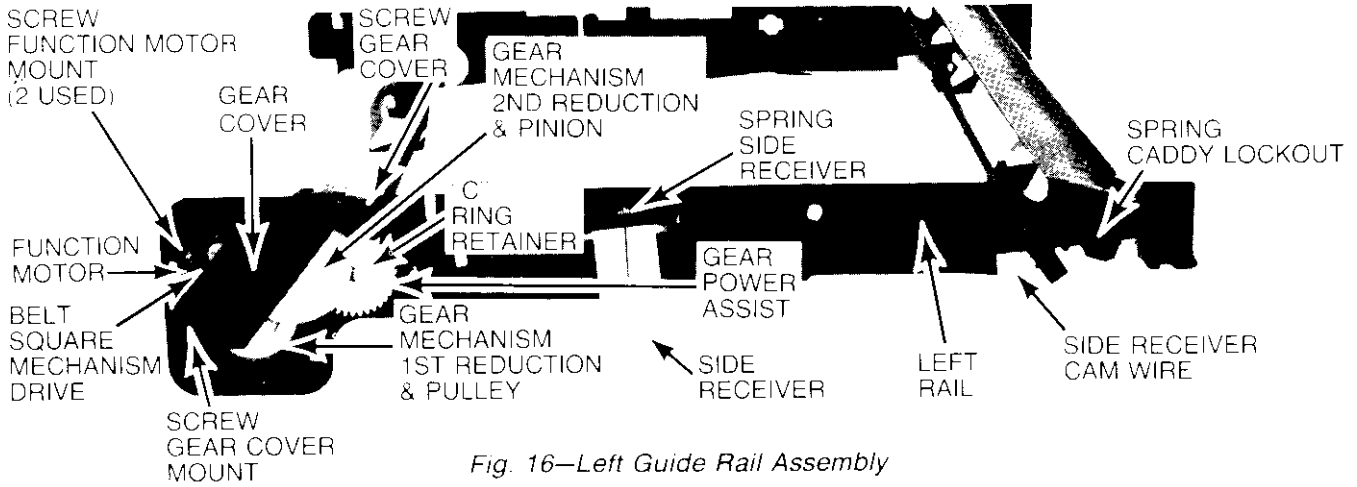
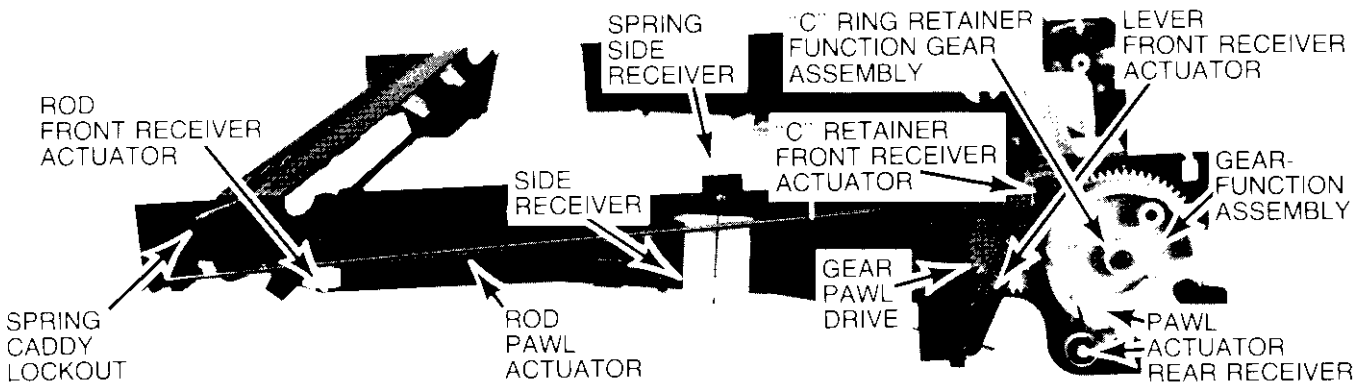

Fig. 16—Left Guide Rail Assembly
Fig. 17—Right Guide Rail Assembly
2. Remove two (2) pozi-drive (+ head) screws and remove gear cover Fig. 16.
3. Remove square drive belt Fig. 16.
4. Remove two (2) small pozi-drive (+ head) screws and remove function motor.
1. With guide rail assembly removed from player—remove retaining rings from function gear and receiver actuator (Fig. 17).
2. Release front receiver activating rod (Fig. 17) held captive by plastic tab on right rail assembly.
5. Remove receiver actuator rod (Fig. 17) from right rail assembly and side receiver wire cam (Fig. 16) from left rail.
6. Remove retaining ring holding pawl drive gear (Fig. 17) captive—remove pawl drive gear.
7. Remove retaining ring holding the power assist gear (Fig. 17) captive. Remove power assist gear.
8. Remove caddy lockout springs (Figs. 16 & 17) right and left sides. Remove caddy lockouts (Figs. 16 & 17).
1. With cabinet top, receiver spindle assembly and guide rail bracket removed—use thumb to rotate mechanism drive 2nd reduction gear (Fig. 16) in clockwise direction to place mechanism in "PLAY" mode while holding AC switch (S2) actuator (Item 47, Fig. 47) back out of the way. Immediately stop rotating mechanism 2nd reduction gear when Disc Transfer Rod Coupler (Item 38, Fig. 47) activates "PLAY" Switch S7 (forwardmost switch mounted on plastic AC IN board mounting bracket beside mechanism function gear).